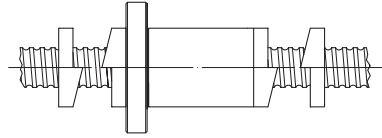

Fig. 3.3 Mechanical stop to prevent over-travel of the nut
- d) It is advisable to install a safety stop at the ends to prevent over-travel of the nut (Fig. 3.3), which could damage the ballscrew assembly, particularly before the screw has been assembled.